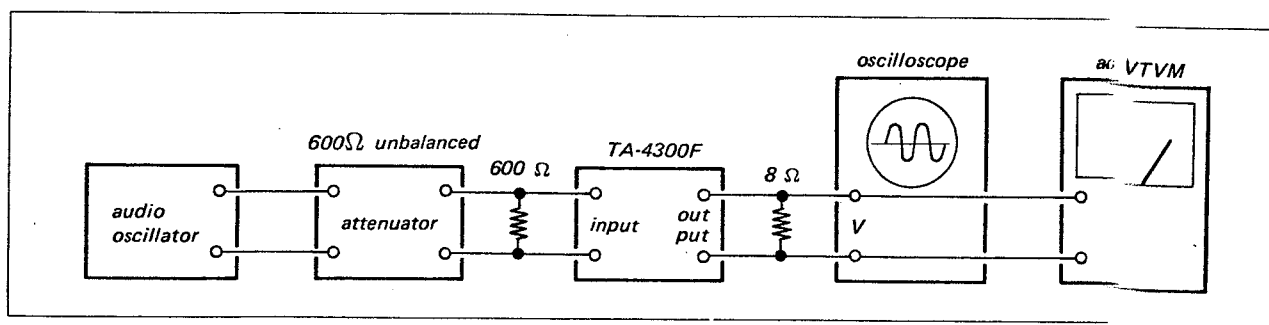

Fig. 3-5 Harmonic distortion test setup
1. With the equipment connected as shown in Fig. 3-5, feed a signal as specified in Table 3-5, to obtain a 15.2 dB (4.5 V rms) output.